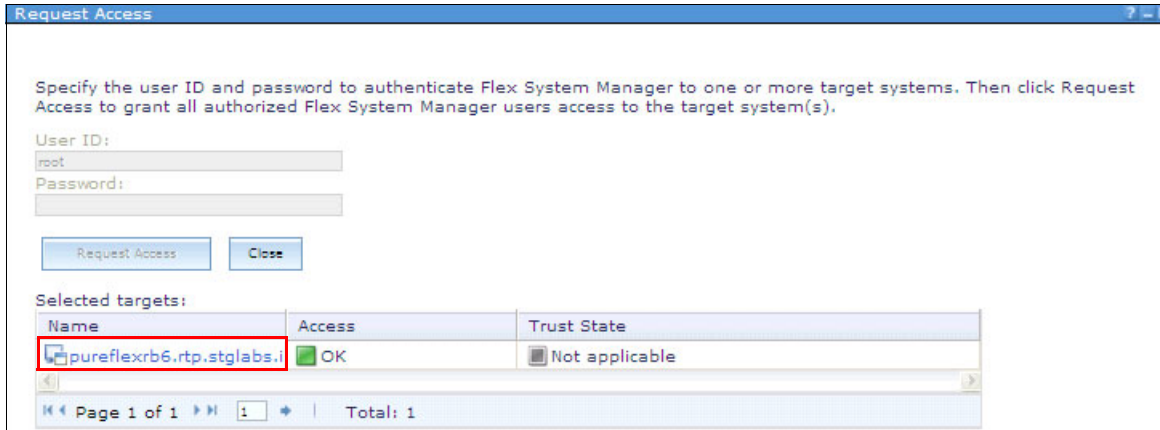

Figure 9-27 Access granted on KVM image repository
- Click **No access** and use root credentials to grant access to the system, as shown in Figure 9-27, then click the system name.